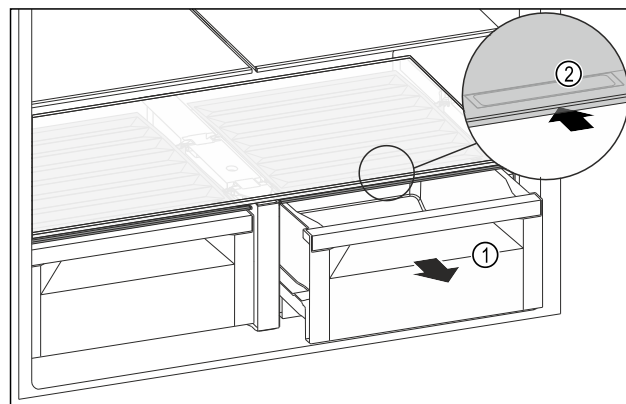

Fig. 109
- Pull out the drawer Fig. 109 (1).
- Grip the handle recess Fig. 109 (2) on the lid while pulling the lid backward at the same time.